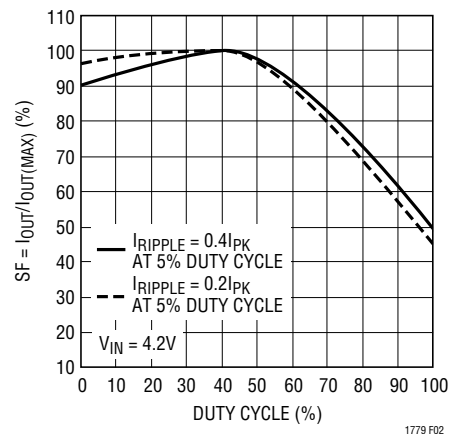
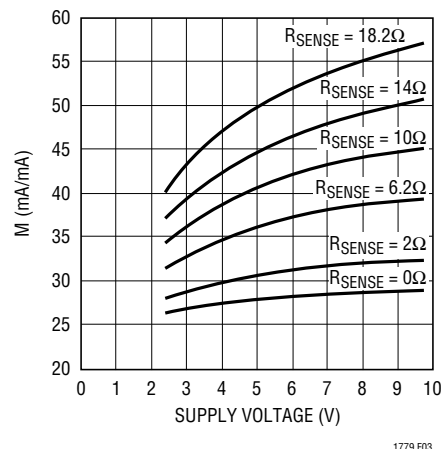
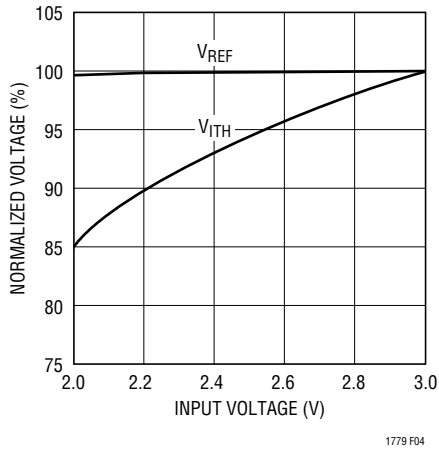

Figure 2. Maximum Output Current vs Duty Cycle
Figure 3.  $M$  vs Supply Voltage
Figure 4. Line Regulation of VREF and VITH
**Note 6:** Peak current sense voltage is reduced dependent upon duty cycle to a percentage of value as given in Figure 2.
when the LTC1779 is operating below 40% duty cycle. However, once the duty cycle exceeds 40%, slope compensation begins and effectively reduces the peak inductor current. The amount of reduction is given by the curves in Figure 2.
The variable  $M$  is the ratio of the total switch current to that portion of the switch current that flows through  $R_{SENSE}$ .  $M$  is a function of both  $R_{SENSE}$  and  $R_{OUT}$  of the internal power switch, which in turn, is a strong function of supply voltage. For values of  $M$  refer to Figure 3. In order to guarantee the desired  $I_{PK}$  over the full range of supply voltage, the minimum value of  $M$ , corresponding to the minimum supply voltage seen in the application, should be chosen. Note that the selection of  $R_{SENSE}$ , and hence the resulting  $M$ , is an iterative process. For most applications, a value of  $R_{SENSE}$  between  $0\Omega$  and  $20\Omega$  will be chosen.
where SF and M are as defined in the previous section, Figures 2 and 3. Typically,  $R_{SENSE}$  is chosen between  $0\Omega$  and  $20\Omega$ . Current limit is at a minimum at minimum input voltage and maximum at maximum input voltage. Both conditions should be considered in a design where current limit is important.
Choose the slope factor, SF, from Figure 2 based on the duty cycle. The ripple current calculated at minimum input voltage and the chosen L should be used in the current limit equation (see Inductor Value Calculation). Figure 3 provides several values of  $R_{SENSE}$  and their corresponding M values at different input voltages. Select the minimum input voltage and calculate the resulting minimum current limit settings.
Although the LTC1779 can function down to approximately 2.0V, the maximum allowable output current is reduced when  $V_{IN}$  decreases below 3V. Figure 3 shows the amount of change as the supply is reduced down to 2V. Also shown in Figure 4 is the effect of  $V_{IN}$  on  $V_{REF}$  as  $V_{IN}$  goes below 2.3V.